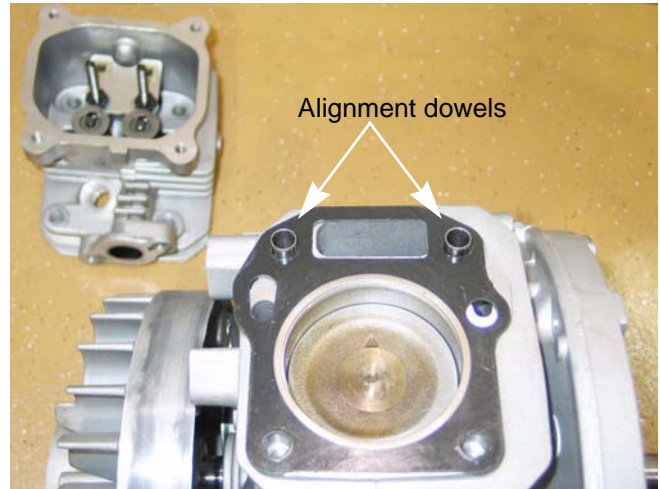

Figure 9.5
**NOTE:** Early production had the alignment dowels fit in the head bolt holes next to the push rod chamber. See Figure 9.5.